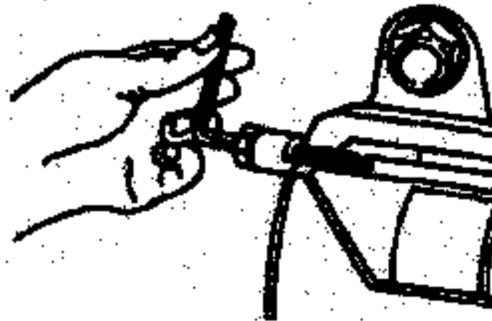

Figure 20
4. With a $7/32$ " allen wrench, turn the adjusting screw and sealing nut assembly without rotating the nut on the screw into the housing until the nut is firmly against the housing. Tighten the sealing nut against the housing (Figure 20).